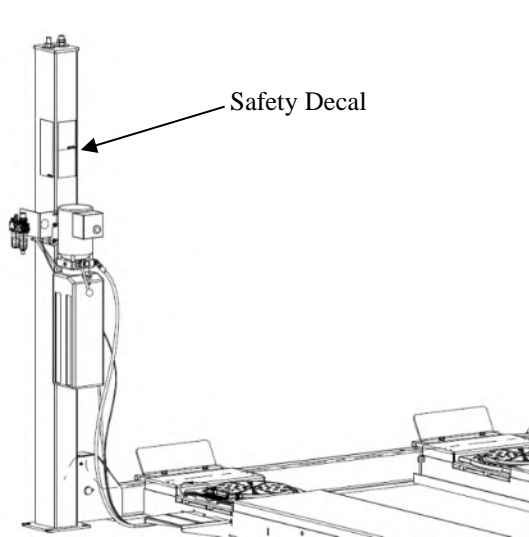

**Figure 21 - Turntable Position and Adjustment**
2. Place each front turntable assembly on the front alignment pan of the runway. Moving lock handles of the turntables should be oriented to the outside of lift, See **Figure 21 (a)**.
3. If the surface of turntable is not flat with the runway, the turntable support can be adjusted to level with runway by using the 6 adjustment bolts under the support plate. See **Figure 21 (b)**. Tighten the jam nuts on the adjusting screws after adjusting.